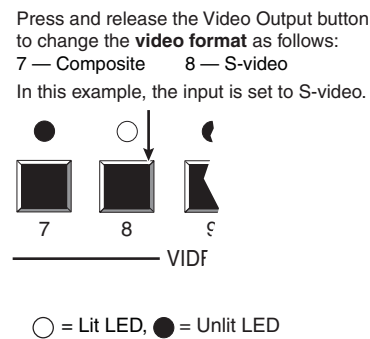

Figure 3-49 — Video format selection
4. To change the format, press and release the Video Output button, 7 or 8, that relates to the desired format (figure 3-49).